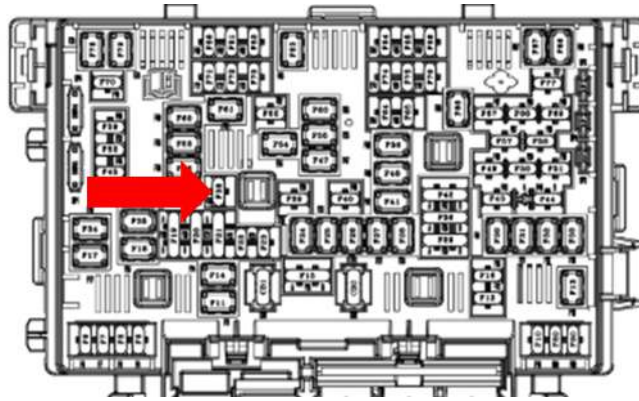

Fig. 3
6. Remove the PDC cover, locate and remove the #38 AGSM fuse Fig. 3.
35. Install the #38 AGSM fuse Fig. 3 and the PDC cover Fig. 2.